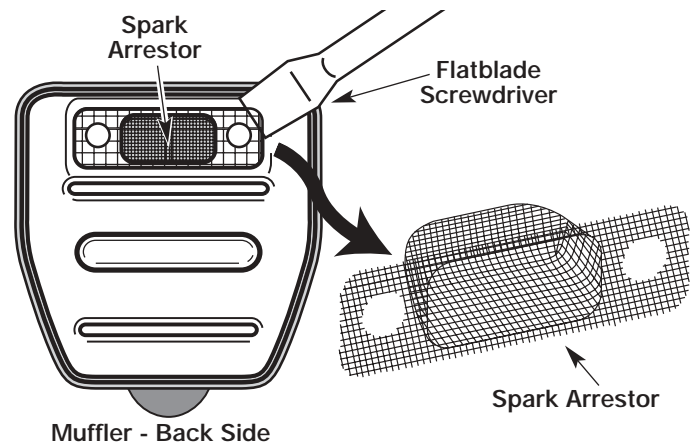

Fig. 32
4. Using a small flatblade screwdriver, carefully pry up the spark arrestor from the recessed hole (Fig. 32). Remove the spark arrestor from muffler.
5. Clean the spark arrestor with a wire brush. Replace it if it is damaged or if it is impossible to clean thoroughly (Fig. 32).